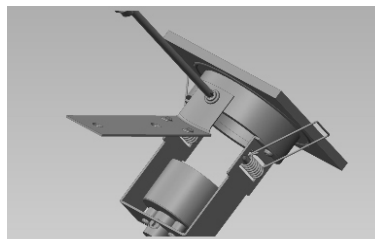

Fig 6
7. Fix the metal strip to the side of the downlight (Fig 6).